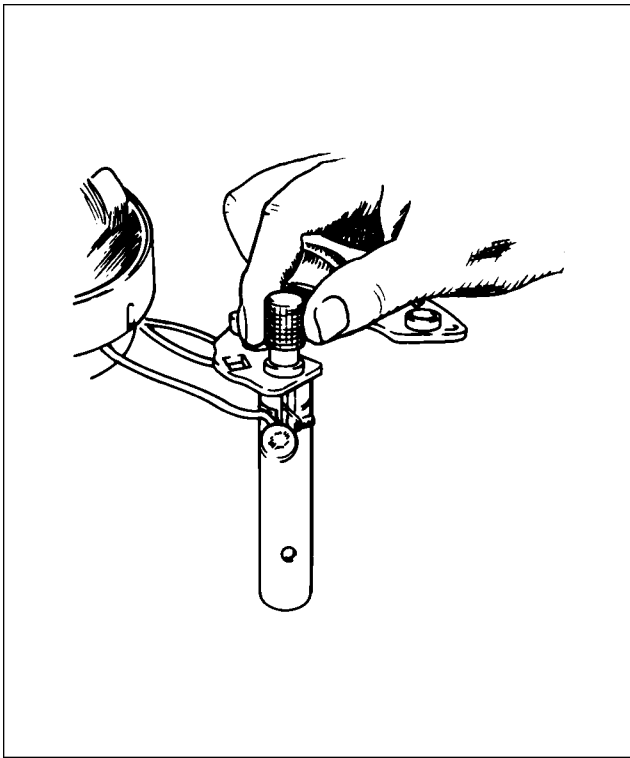

Figure 24-4. Removal of Rectifier
4. Remove the nuts, lock washers, flat washers and insulators from the output and auxiliary terminal studs. Note carefully the correct assembly of the insulator washers and bushings. Using the special tools shown in Figure 24-4, support the end head and press out the three rectifiers. The end head can now be separated from the stator assembly.